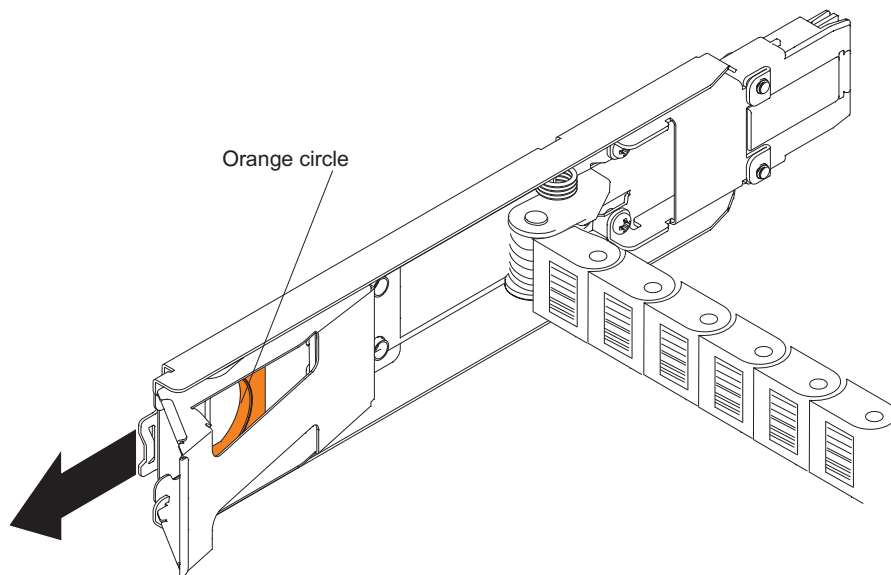

Figure 84. Vertical mounting bracket that connects to the midplane
- c. Disconnect the right cable chain mounting bracket from the midplane. Insert your finger into the orange circle (see Figure 84 on page 124), and pull the mounting bracket completely out of the storage expansion enclosure. If necessary, use a flashlight to see the orange circle.